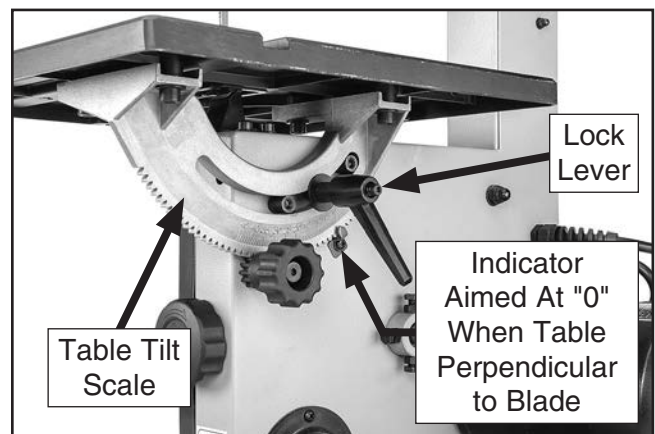

Figure 13. Table tilt controls re-installed.
6. Use lock lever to secure table perpendicular to blade, then aim indicator to "0" on table tilt scale and tighten screw (see **Figure 13**).